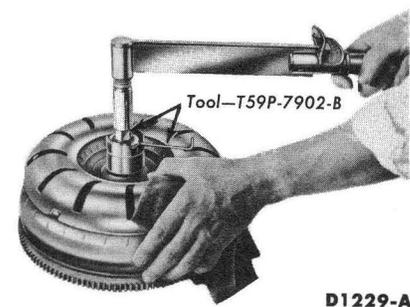

FIG. 3—Stator One-Way Clutch Check
4. Place a torque wrench on the tool (Fig. 3). The tool (and stator inner race) should turn freely clock-